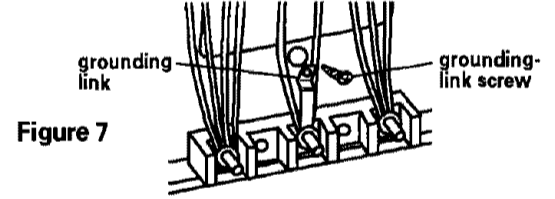

Figure 7
8. Remove the grounding-link screw from the range frame. Save the grounding-link screw. Bend up the grounding link so that it does not contact the range. See Figure 7.